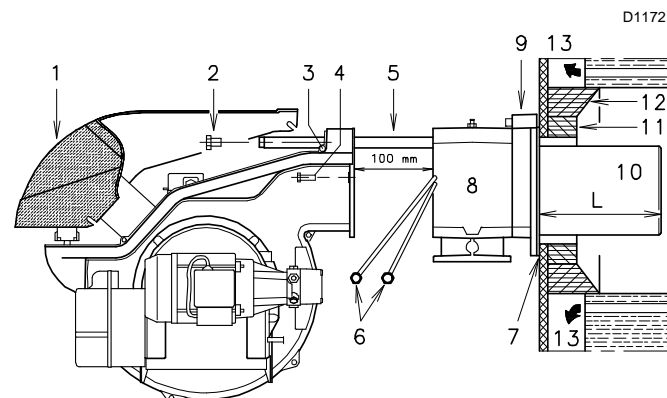
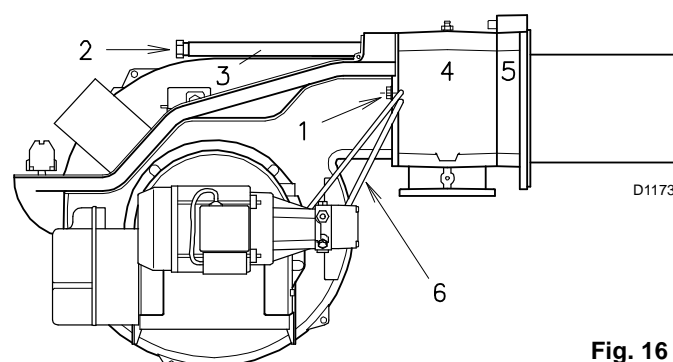

Fig. 10
Fig. 16
For boilers with a water-cooled front piece, a refractory lining 11)-12)(Fig. 10) is not necessary, unless expressly requested by the boiler manufacturer.
- Separate the combustion head from the rest of the burner (Fig. 10):
Once this operation (if necessary) has been carried out, fix the flange 9)(Fig. 10 on page 17) to the boiler plate, interposing the insulating gasket 7)(Fig. 10 on page 17) supplied. Use the 4 screws, also supplied with the unit, after protecting the thread with anti-seizing product.
- Reassemble the burner on the guides 3)(Fig. 16) at about 100 mm from the pipe coupling 4), burner in the position shown in Fig. 10 on page 17;
- insert the electrode cables and then slide the burner up to the pipe coupling, the burner in the position indicated in Fig. 16
- refit screws 2)(Fig. 16) on slide bars 3);
- reconnect the light oil pipes by screwing the two fittings 6)(Fig. 10 on page 17).